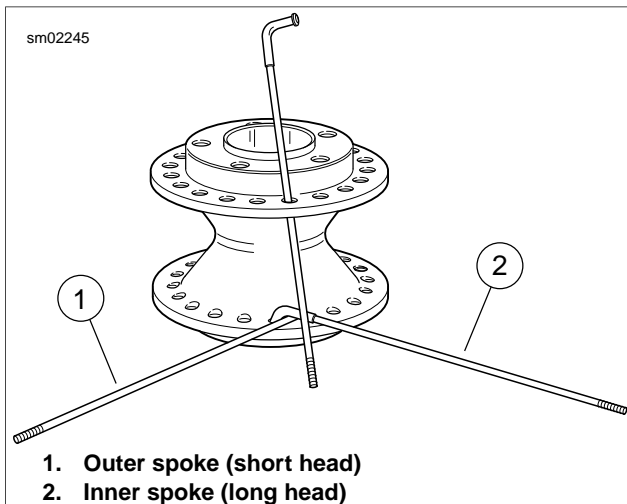

Figure 2-30. Lacing 19 Inch Wheel Hub
3. See Figure 2-30. Place hub on bench with the brake disc side up. On dual-disc wheel hubs, this is the side with the cast recesses between the brake disc bolt holes. Insert one outer spoke (short head) into any bottom flange hole and swing it clockwise. Insert an inner spoke (long head) in the next hole to the left of the outer spoke. Swing the inner spoke counterclockwise over the outer spoke.